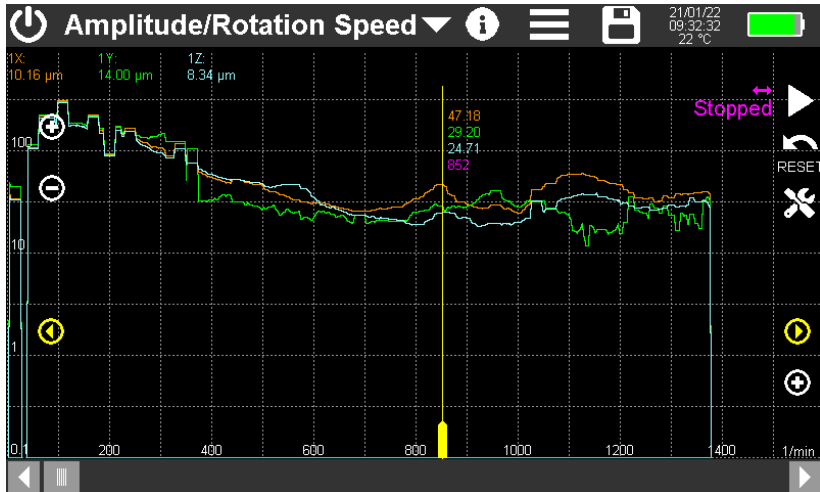

Figure 24: Amplitude/rotation speed measurement
This measuring module graphically displays the vibration amplitude as a function of rotation speed. The main application is the detection of resonances. Figure 24 shows a screenshot of an example measurement. In the upper part there is the uniform menu bar, which is described in section 3.3.
**Resolution** determines how wide an RPM step should be in the diagram. The higher the value, the more staggered the amplitude curves appear. Small values for the resolution provide smoother progressions, but on the other hand require a slower change of the speed, because the detection of the speed and the corresponding amplitude takes a certain time. If the instrument does not succeed in recording a measurement in a speed interval, gaps appear in the curve. In Figure 24 this can be seen on the left edge of the diagram.
At the top of the rotation speed diagram (Figure 24) the currently measured amplitudes of the measuring channels are displayed. Channels without a sensor are not displayed. The rotation speed is displayed on the right side. If no pulses are detected, "Stopped" is shown instead. The arrow above indicates the selected speed ramp.